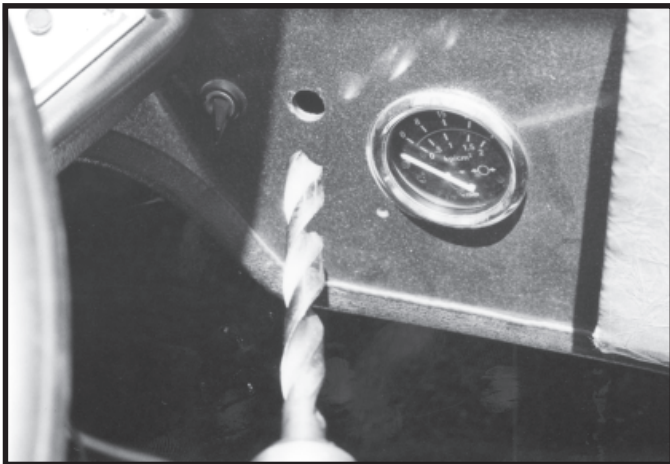

FIG. 15
Step 8: Find a good location for the up-down toggle switch. This switch should be located for easy access while operating throttle. Use 1/2" drill to drill hole at location taking care not to damage wires or brackets. (Fig. 15)